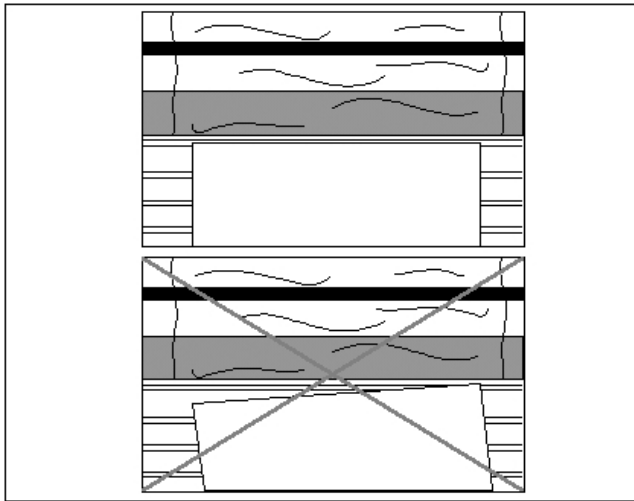

Fig 28
9. Align the leading edge of the item square to the heat roller nip (Figure 28).